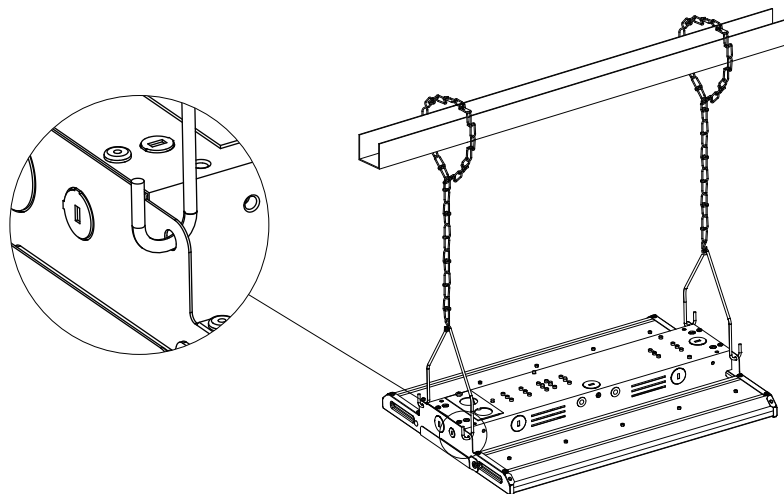

Figure 1
- Loop the hanging chain (not provided) through each hanging bracket. Secure the other end of the chain to a structure using hardware rated for the load. Insert hook-end of hanging bracket through mounting holes on each side of the fixture body. *Make sure the wire hangers are fully engaged into the side holes on the top channel. (Figure 1)